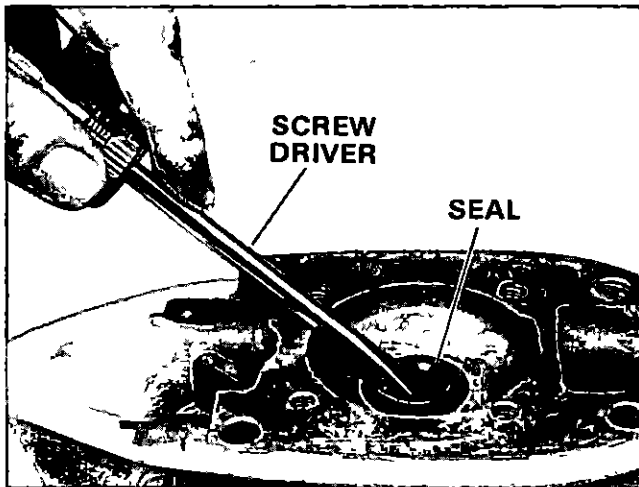

Figure 54. Removing Driveshaft Seal.
- G Pry seal out of bore in upper gear housing with screwdriver. Figure 54.